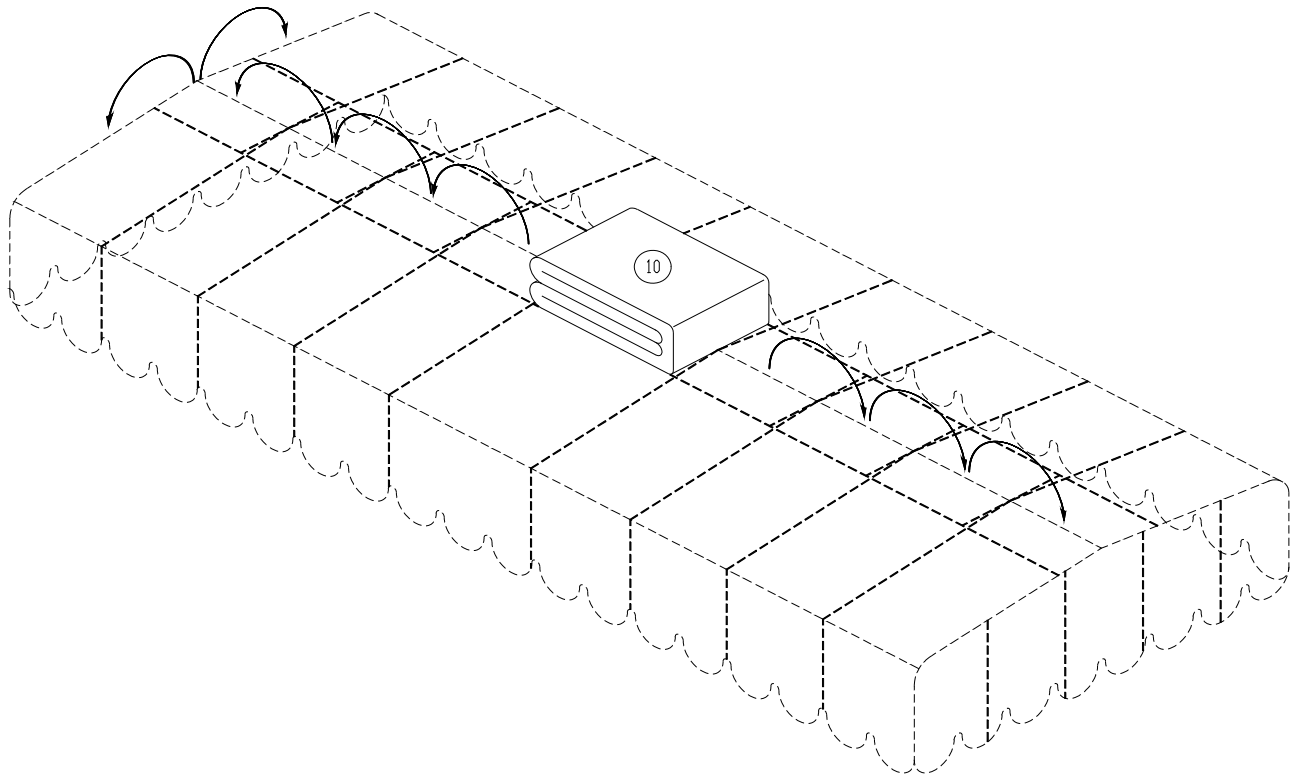

Figure 2-10.
16. Refer to **Figure 2-10**. Place the canopy fabric bundle on top of the canopy frame and unfold down the length of the frame; then unfold across the width. Pull fabric snugly over the frame.